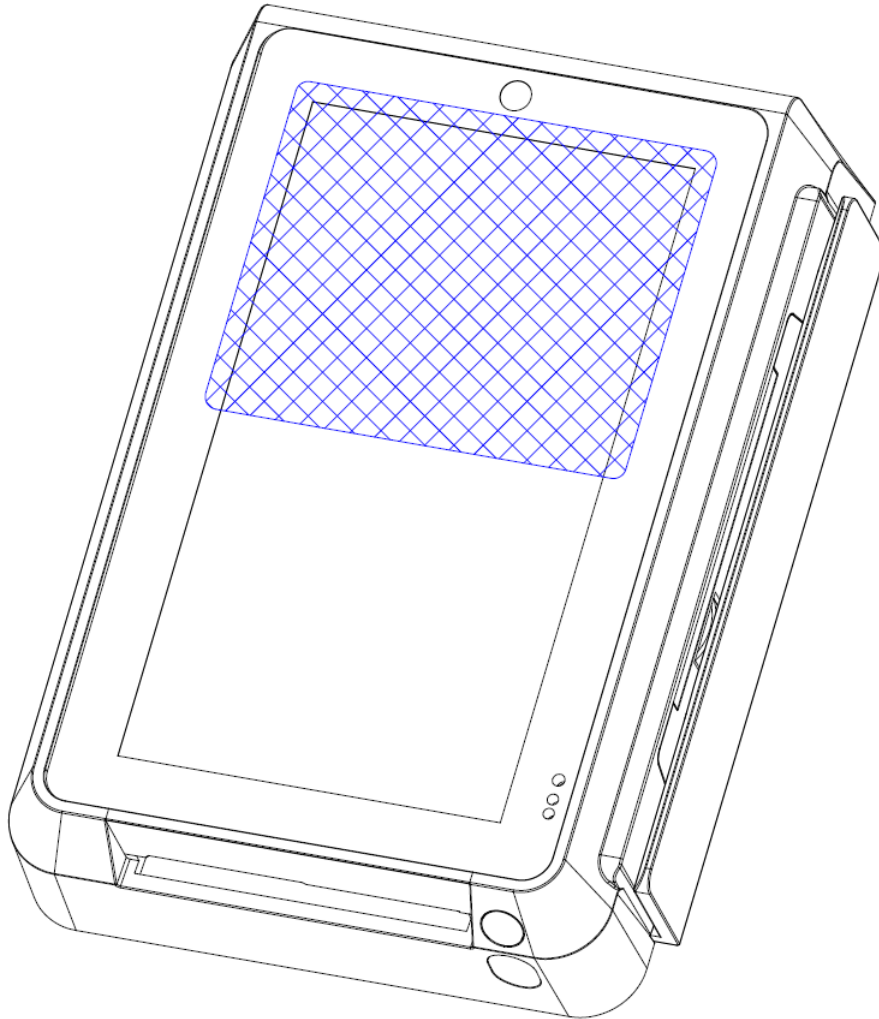

Figure 23: contactless card reader (contactless card outlined in blue)
- **card reader use:** The contactless card reader reads cards and devices placed roughly parallel to the area indicated in Figure 23: contactless card reader (contactless card outlined in blue) from a distance of anywhere from 0 to 4 cm. For best results, place as close to the screen as possible and center the card over the indicated area.